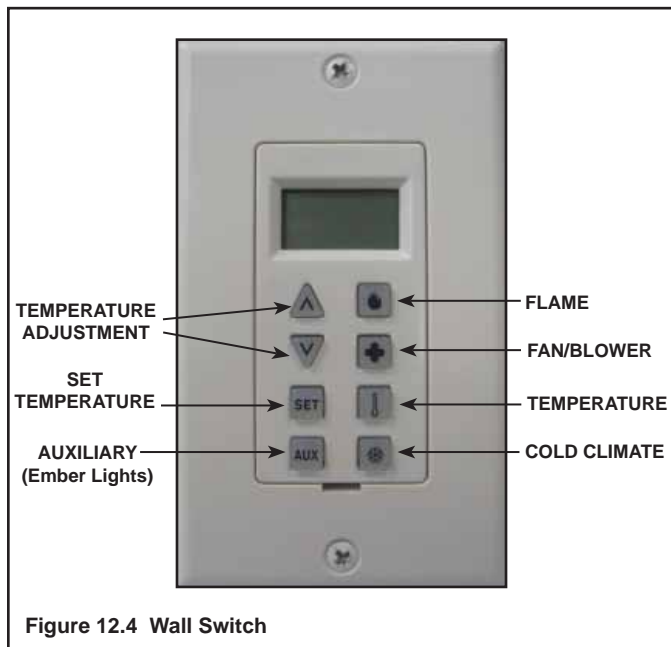

Figure 12.4 Wall Switch
- Press flame button once (see Figure 12.4); fireplace will light with flames on high.
- Turn solenoid clockwise to increase pressure, counterclockwise to decrease pressure until manifold pressure on high is 3.5 in. water column for natural gas (NG), 10.0 in. water column for propane (LP).